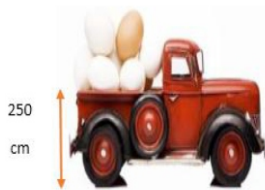

Fig. 1: Egg's car transportation
Egg is a spherical shape material with a thin and vulnerable crust. Thus, it must be carried in such a safe boxes during loading to reduce the risk of being cracked in potential falls. This will economically help both producers and sellers. The height of trucks is usually between 2 to 2.5 meters which makes it necessary to save the eggs when it falls (Fig. 1). As seen in figure (2) the egg has a spherical structure. Egg contains different layers and parts shown in figure (2). The layers and components of the egg are: eggshell, air cell, internal and external membrane, thin and thick egg white (albumen), germinal disk, vitellina membrane, chalaza, yolk covered with a soft egg shell (crust).